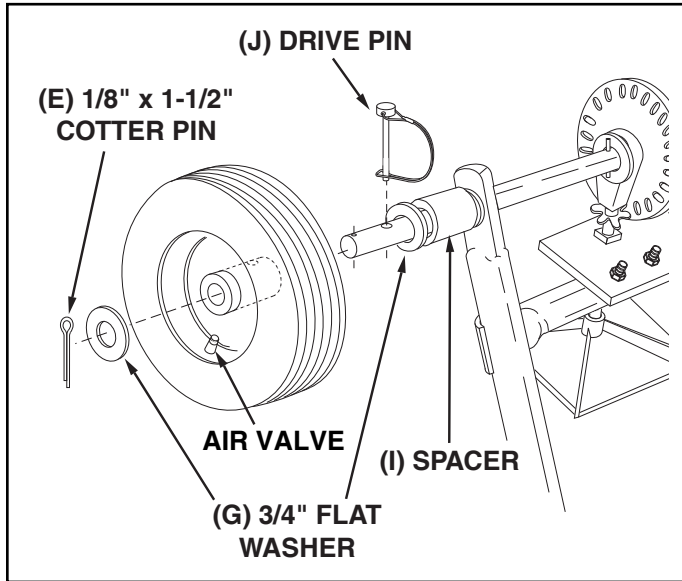

FIGURE 4
7. Assemble a spacer (I), a 3/4" flat washer (G), a wheel (air valve facing out) and another 3/4" flat washer (G) onto the end of the axle that has both the **large and small holes**. See figure 4.
8. Install a 1/8" x 1-1/2" cotter pin (E) into the small hole in the end of the axle. See figure 4.
9. Open the bail on the drive pin (J) and install it through the wheel and the large hole in the axle. Close the bail to lock the pin in place. See figure 4.
(Refer to figure 4 on page 5.)
1. If the axle, slotted gear and sprocket assembly is disassembled, mark down the positions of the parts as they are removed. The drive wheel and sprocket positions in relation to the slotted gear determine which direction the spreader plate will spin. Be sure to reassemble them in their original positions. (Refer to figure 4 on page 5.) Use shim washers (Ref. no. 21 on pages 18 and 19) as needed for minimum backlash. Add grease to gear and sprocket.